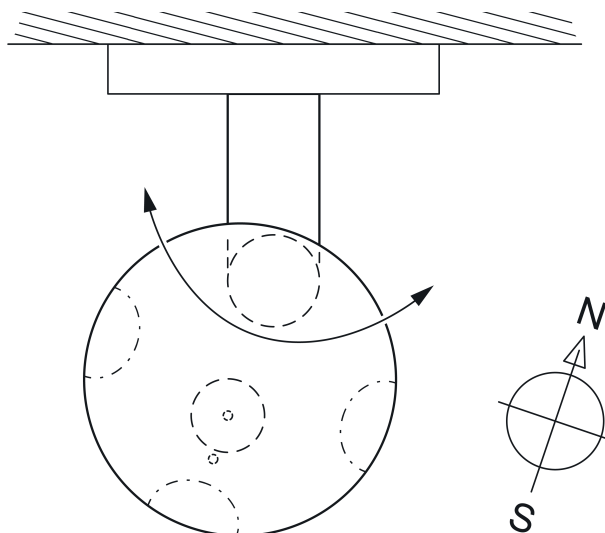

Figure 6: Orienting the weather station
- Align the sensor head in the appropriate direction or - depending on the detailed on-site circumstances - according to the alignment of the facade (Figure 6).